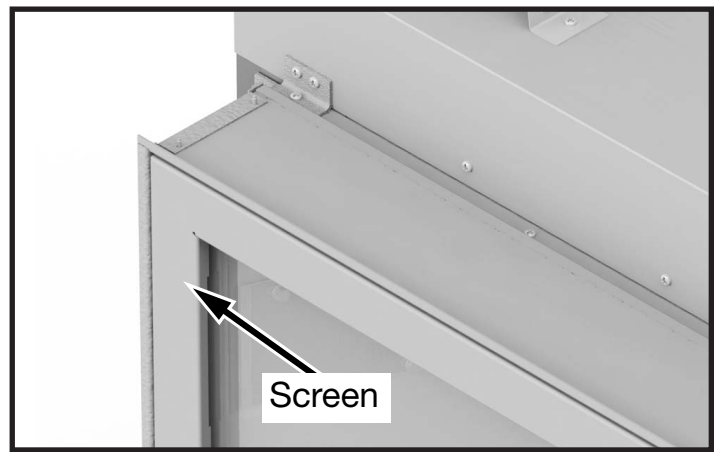

Figure 20: Safety barrier screen.
2. Remove the safety barrier screen (Figure 20) and remove the decorative door trim.